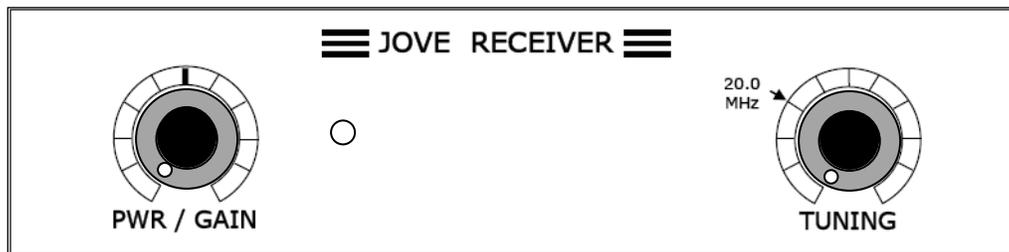

Figure 10. Jove receiver front panel with knob alignment.
3.  Install the two knobs. Align them so that when the control is turned full counterclockwise, the index mark is near the 7 o’clock position (Figure 10). Once the knob set screw is tightened down, the full counterclockwise rotation and the full clockwise rotation of the knob index mark should be equal-spaced from the 6 o’clock position.